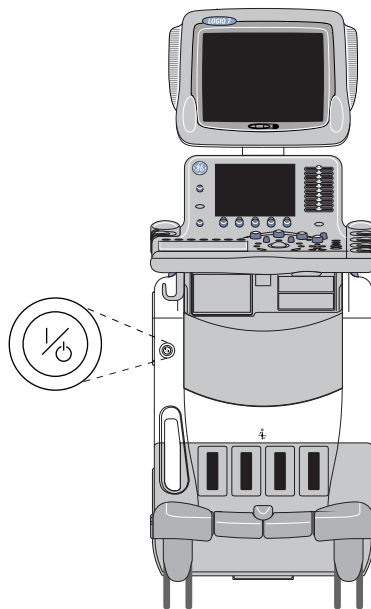

**Figure 4-1 Circuit Breaker**
- 2.) Switch OFF the Main Circuit Breaker at the rear of the system Refer to Figure 4-1.
- 3.) Disconnect the Main Power Cable if needed. Refer to Figure 4-1.